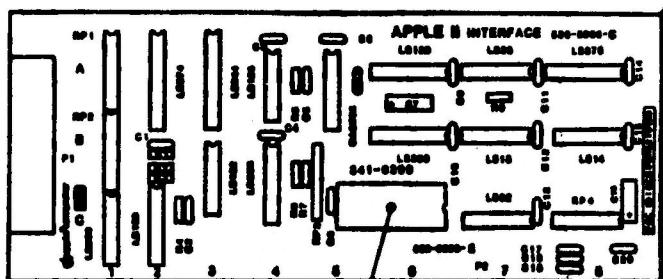

FIGURE 3
- IPL.5 ProFile Interface Card (Figure 3)
PROFILE INTERFACE CARD (Figure 3)